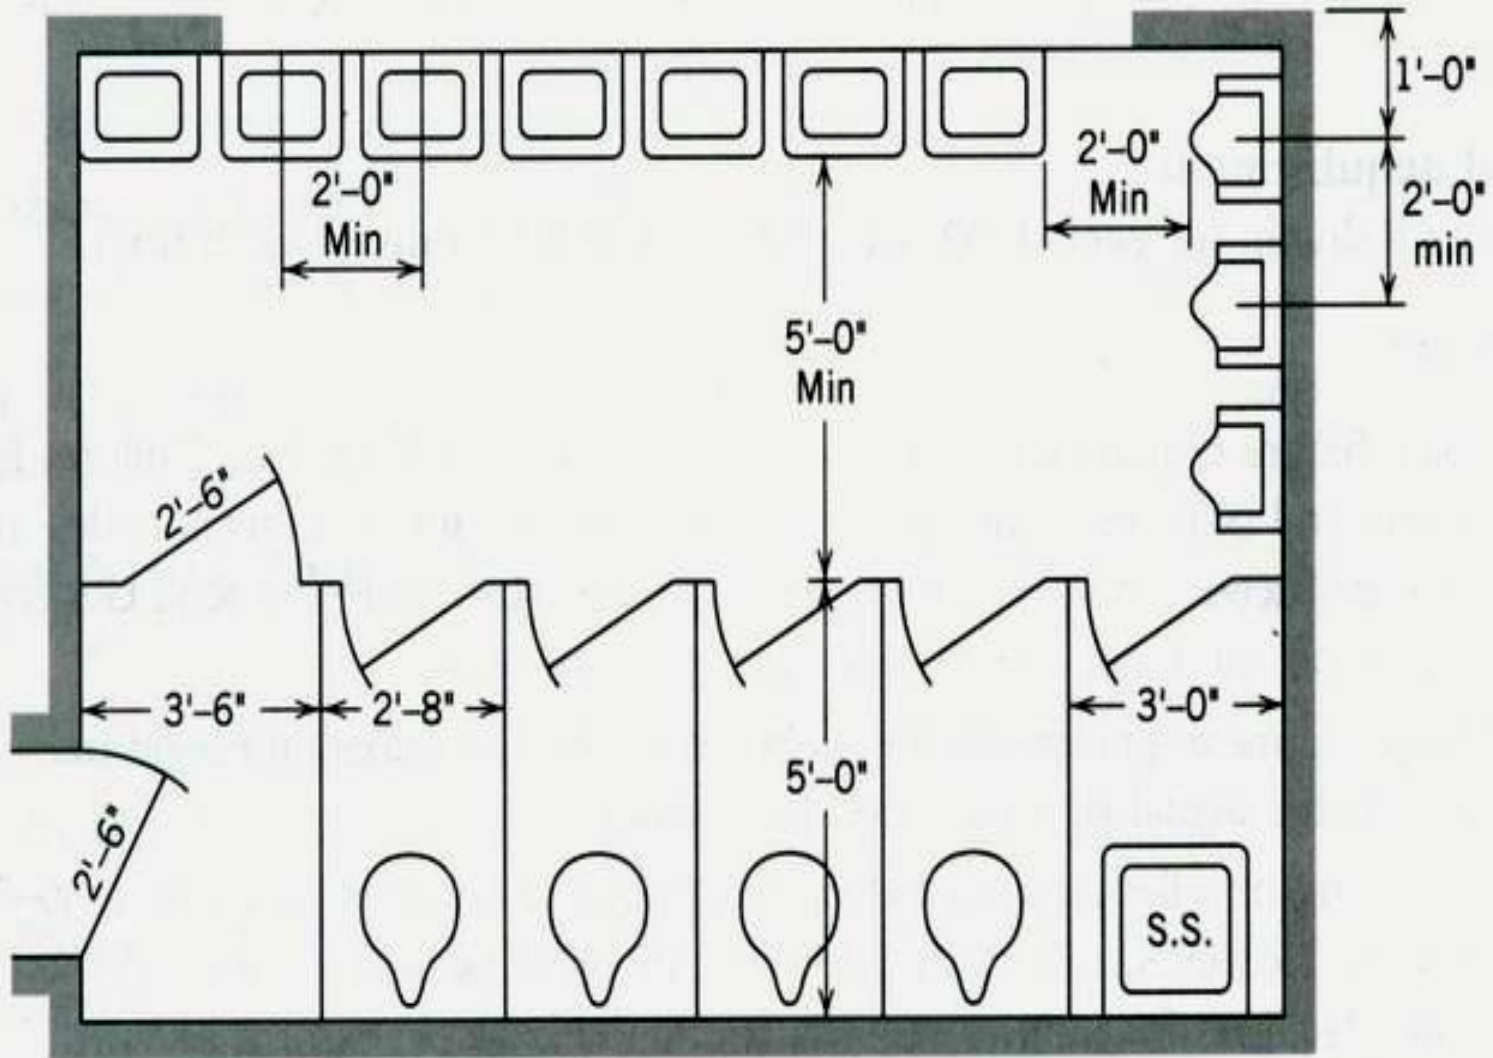

Figure 4.6 Restroom layout with typical fixture clearances. Based on New York State Labor Code. (Taken from [1] with permission of The McGraw-Hill Companies.)
- ◆ Figure 4.6 shows an example of clearance requirements for bathrooms.